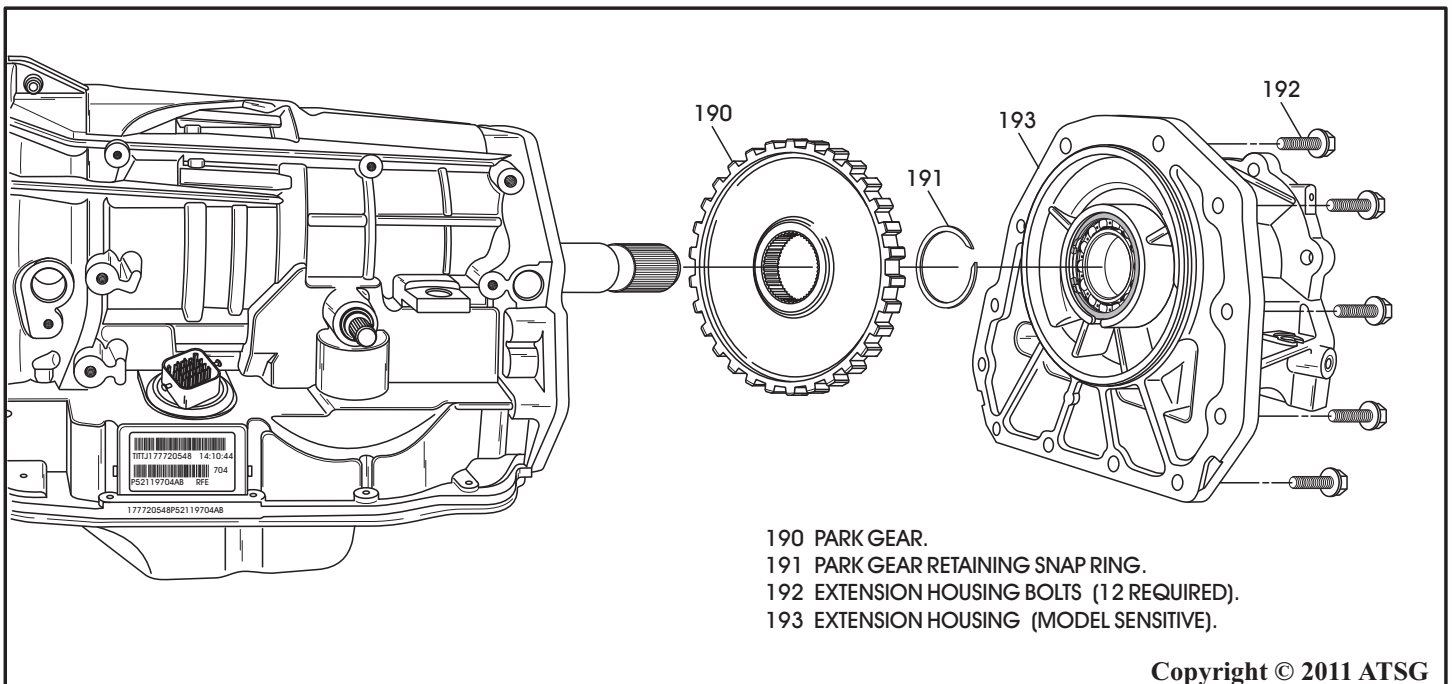

Figure 164
48. Turn the transmission over onto the oil pan and install the park gear and retaining snap ring, as shown in Figure 164.
49. Apply a bead of RTV silicone to the extension housing and install it onto the transmission, as shown in Figure 164.
50. Install the 12 extension housing bolts, as shown in Figure 164.